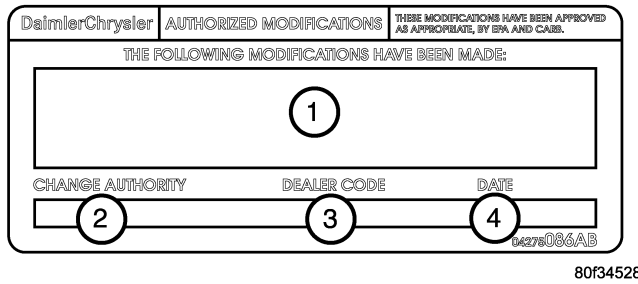

Fig. 1 AUTHORIZED MODIFICATION LABEL
- 8. Type the necessary information on the “Authorized Modification Label” p/n 04275086AB and attach near the VECI label (Fig. 1).